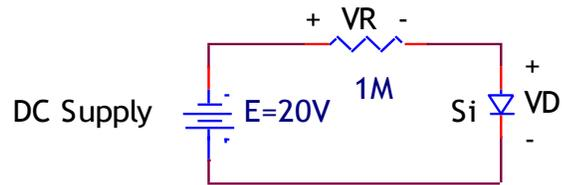

*Fig. 1.1*
1. Construct the circuit of *Fig. 1.1* with the supply (E) is set at 0 V. Record the measured value of the resistor.
1. Construct the circuit in *Fig. 1.1* using PSPICE.